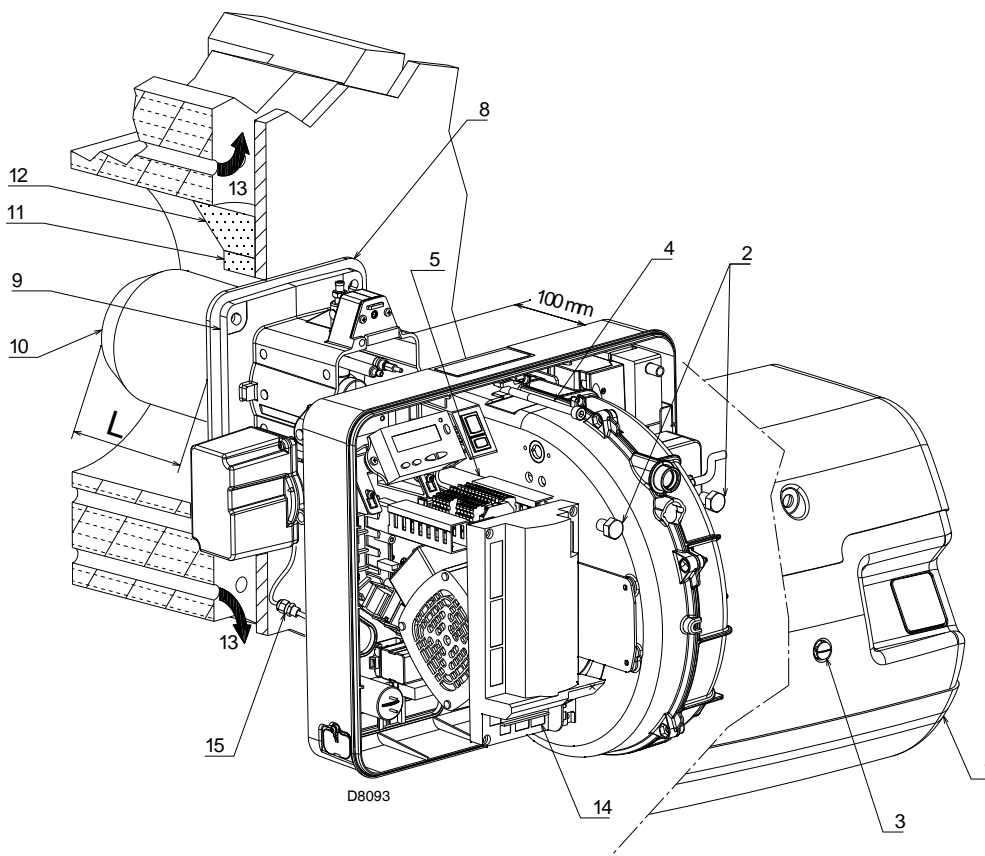

Fig. 12
For boilers with front flue passes 13), a protection in refractory material 11) must be inserted between the boiler refractory 12) and the blast tube 10). This protection must not compromise the extraction of the blast tube. See Fig. 12.
Separate the combustion head from the rest of the burner, Fig. 12.
Fix the flange 9)(Fig. 12) to the boiler plate, interposing the supplied insulating gasket 8)(Fig. 12).
- reassemble the burner on the guides 3) at about 100 mm from the pipe coupling 4) - burner in the position shown in Fig. 12;
- connect the plug of the servomotor 14) (Fig. 12) and tighten the grommet 15) (Fig. 12);